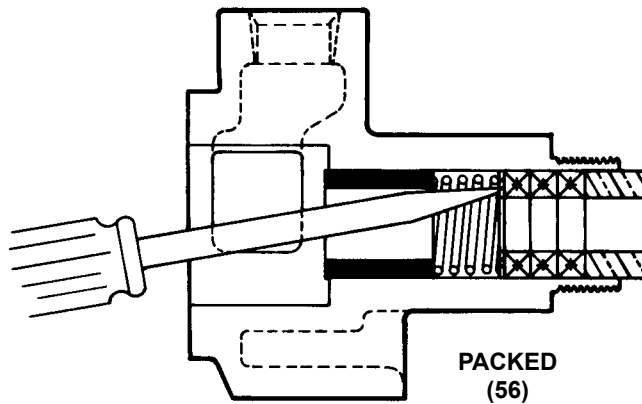

FIGURE 3
5. The pump is now ready for removal of packing or mechanical seal. Refer to Figure 3 or 4 for example. It is recommended a new mechanical seal or packing be used every time a pump is completely disassembled.